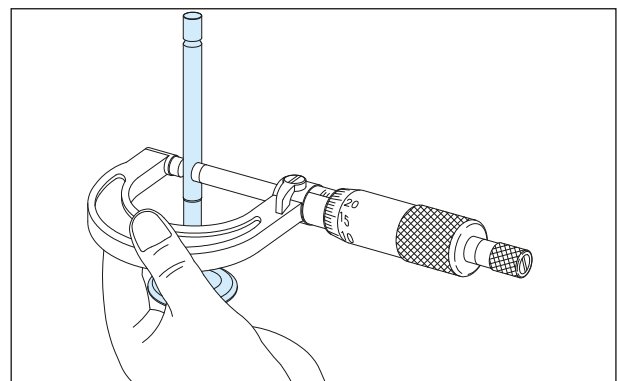

Fig. 3.117
- Measure the outside diameter of valve stem on the operational area. (Fig. 3.117)